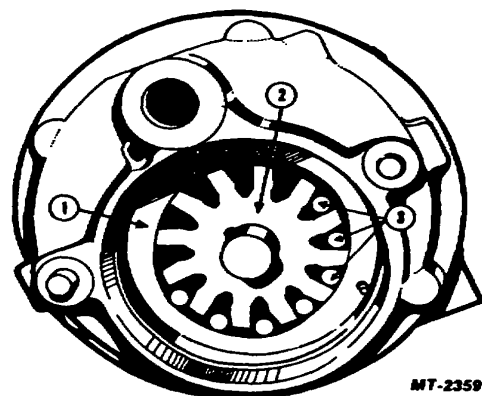

Fig. 20 Remove Components
- 16. Remove the shaft and carrier assembly, roll vanes and then the cam ring, Figure 20.